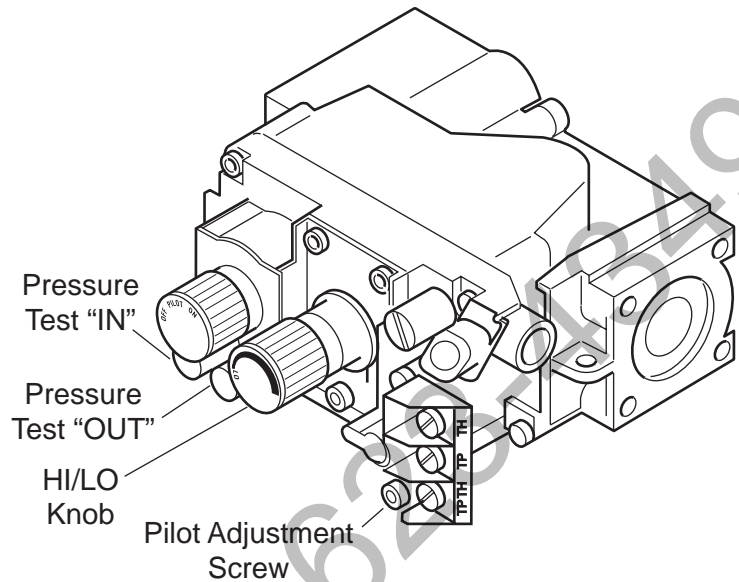

Figure 33 - Gas Pressure Check at Gas Valve
5. To check gas pressures at valve, turn captured screw counter clockwise 2 or 3 turns and then place tubing to pressure gauge over test point. Turn unit to high. See Figure 33. After taking pressure reading, be sure and turn captured screw clockwise firmly to reseal. Do not over torque. Check test points for gas leaks with a soap and water solution.